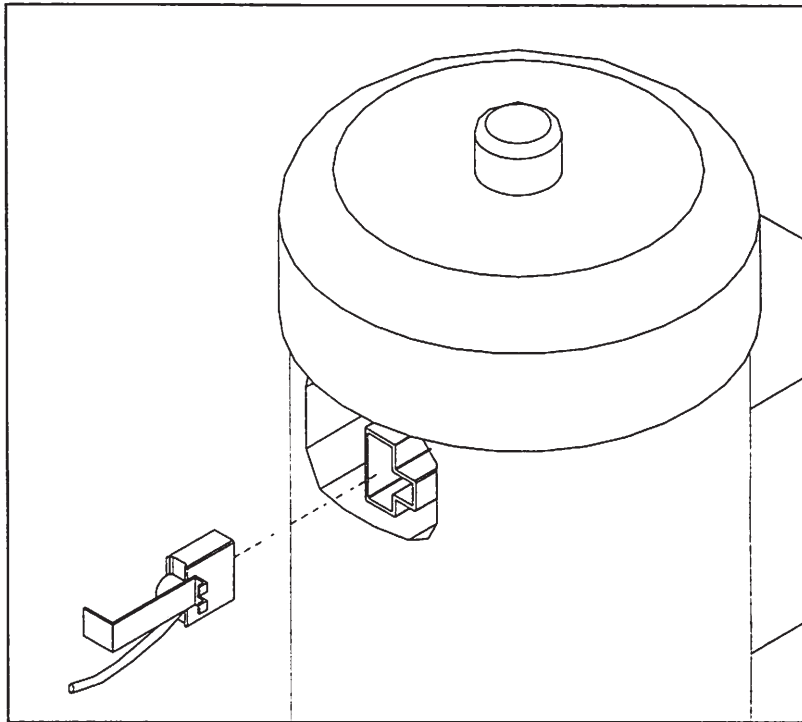

Fig. 4-1
6. If motor can't rotate please check the carbon is damage or not. (Per Fig. 4-1)